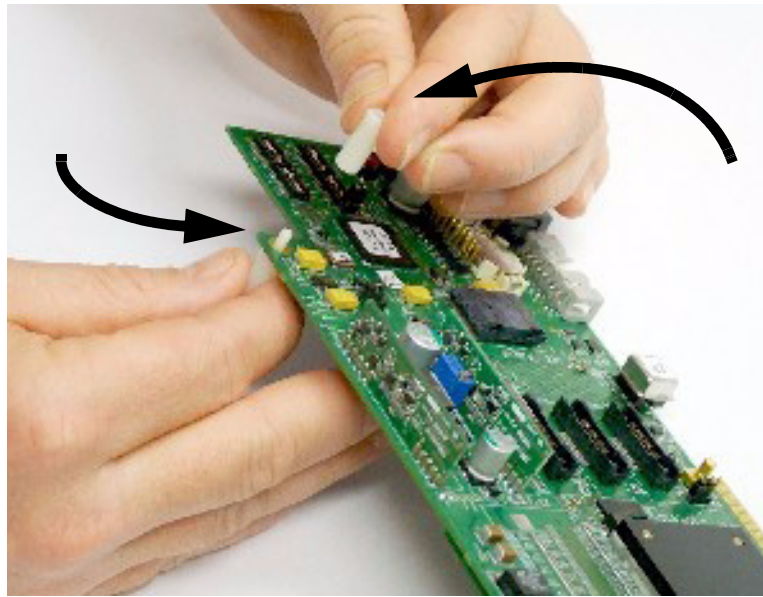
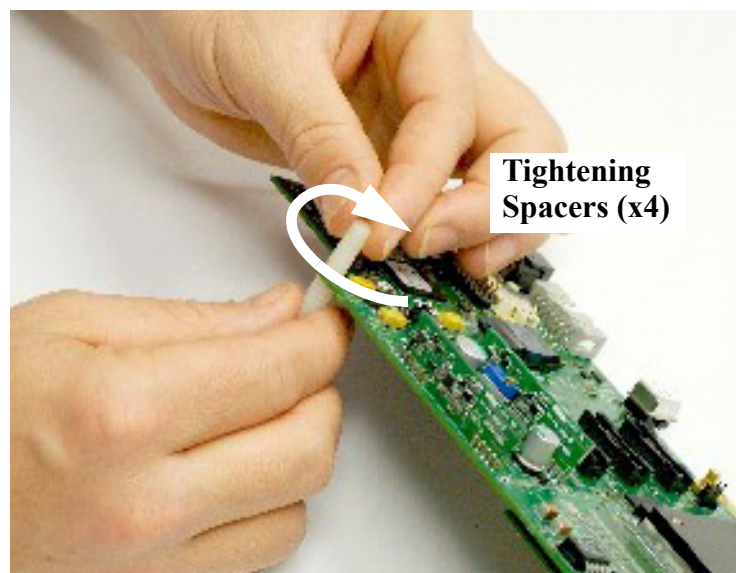

Figure 2-1 Connecting Plastic Spacers
Figure 2-2 Tightening Plastic Spacers
1. *For Stand-Alone Mode only:* Connect the four plastic spacers. See Figure 2-1 and Figure 2-2 .